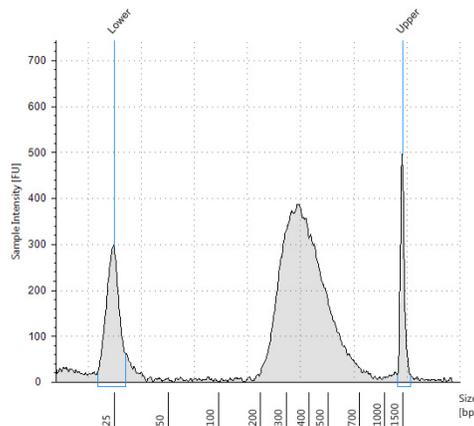
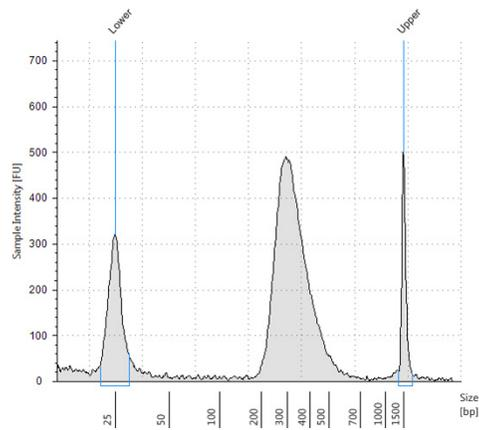
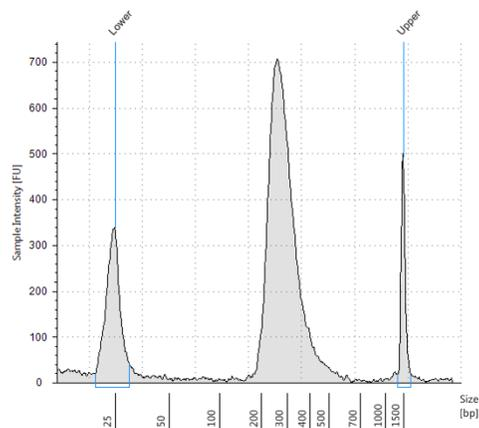

Figure 9 Post-capture library prepared from a high-quality gDNA sample analyzed using a High Sensitivity D1000 ScreenTape assay.
Figure 10 Post-capture library prepared from a typical FFPE gDNA sample analyzed using a High Sensitivity D1000 ScreenTape assay.
Figure 11 Post-capture library prepared from a low-quality FFPE gDNA sample analyzed using a High Sensitivity D1000 ScreenTape assay.
- 3 Verify that the electropherogram shows the peak of DNA fragment size positioned between 200 and 400 bp. Sample electropherograms are shown in Figure 9 (library prepared from high-quality DNA), Figure 10 (library prepared from medium-quality FFPE DNA), and Figure 11 (library prepared from low-quality FFPE DNA).